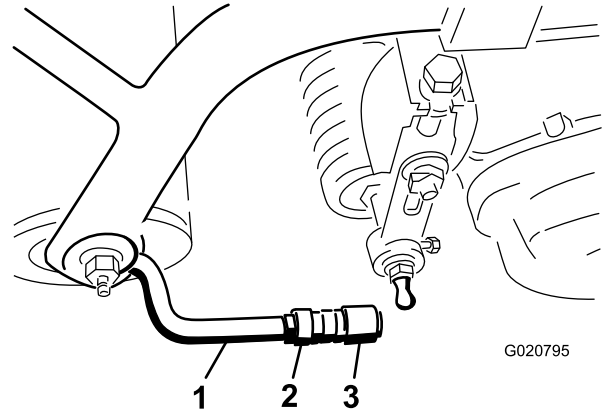

Figure 9
5. Align the sockets in the ball joints so the open side of the socket is centered towards the ball stud. Tighten the jam nuts to secure the sockets in position (Figure 9).